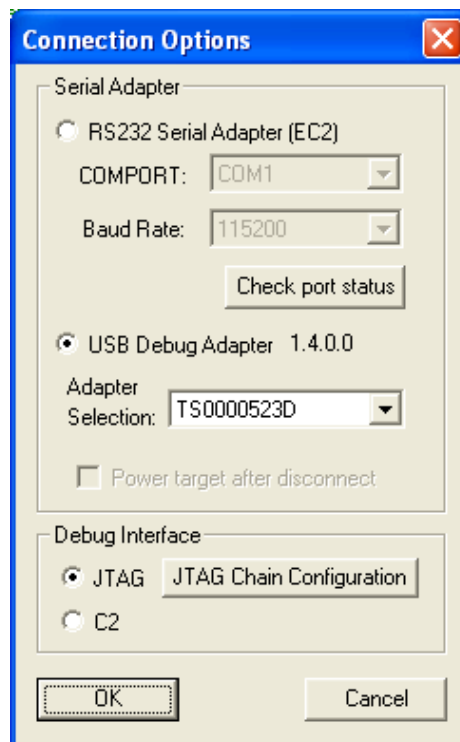

Figure 6. Connection Options Screen
7. Select **USB Debug Adapter** for the Serial Adapter and **JTAG** for the Debug Interface, and then click **OK** as shown in Figure 6.